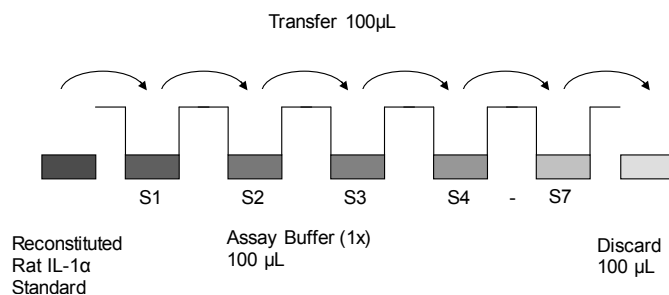

Fig. 7 Dilute standards - microwell plate
3. Standard dilution on the microwell plate (Alternatively the standard dilution can be prepared in tubes - see “External standard dilution” on page 3): Add 100 μ L of Assay Buffer (1x) in duplicate to all standard wells. Pipette 100 μ L of prepared standard (see “Rat IL-1 α standard” on page 3, concentration = 2000.0 pg/mL) in duplicate into well A1 and A2 (see Table 1). Mix the contents of wells A1 and A2 by repeated aspiration and ejection (concentration of standard 1, S1 = 1000.0 pg/mL), and transfer 100 μ L to wells B1 and B2, respectively (see Figure 7). Take care not to scratch the inner surface of the microwells. Continue this procedure 5 times, creating two rows of rat IL-1 α standard dilutions ranging from 1000.0 to 15.6 pg/mL. Discard 100 μ L of the contents from the last microwells (G1, G2) used.